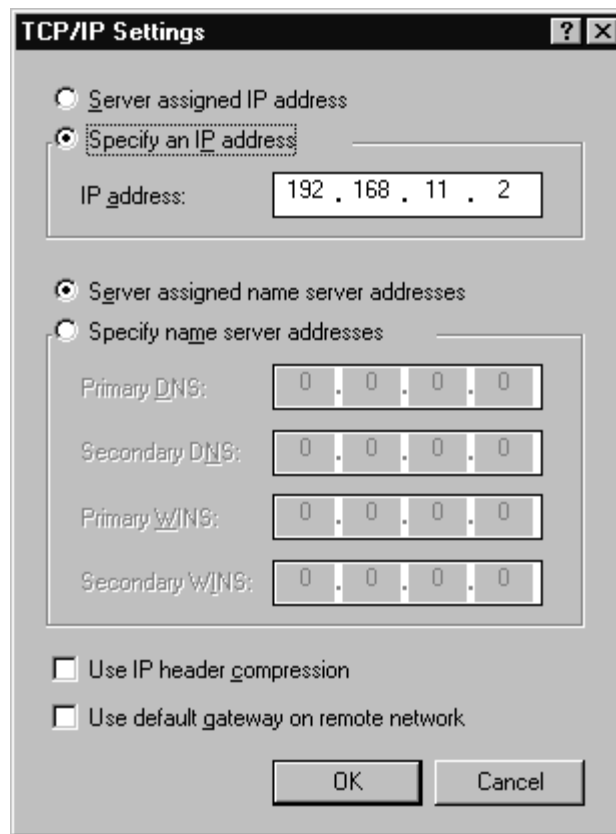

Figure 2-6. TCP IP Settings
5. In the TCP/IP Settings dialog box, click Specify an IP address and type in the following IP address: 192.168.11.2. The “Server assigned name server addresses” option should be enabled. The options “Use IP header compression” and “Use default gateway on remote network” should be disabled. When all options are set correctly, click OK. See Figure 2-6.